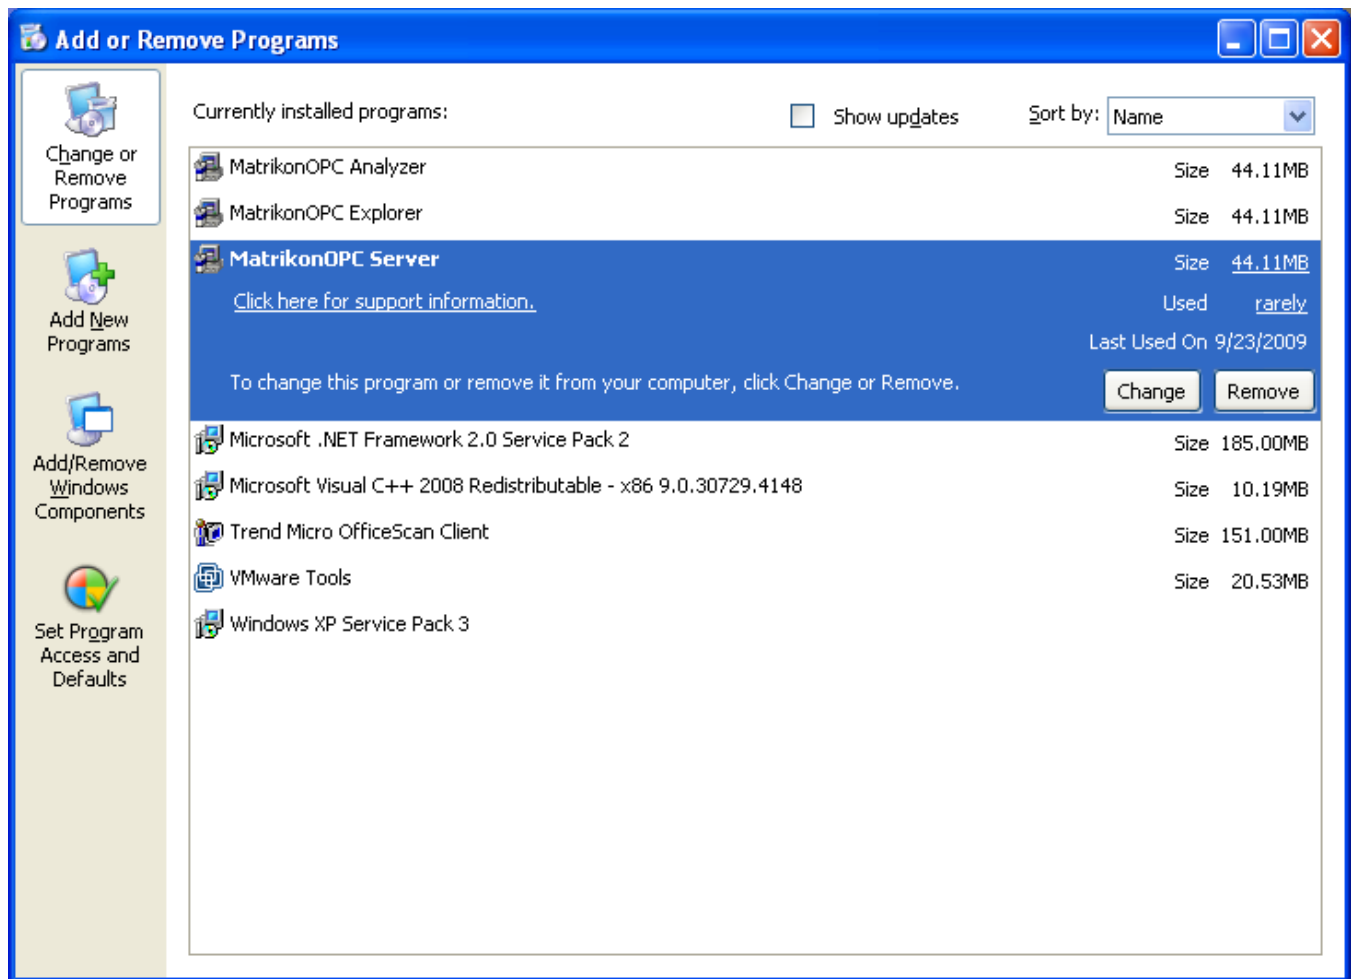

Figure 78 – Add or Remove Programs
3. The **Add or Remove Programs** window (Figure 78) is displayed.